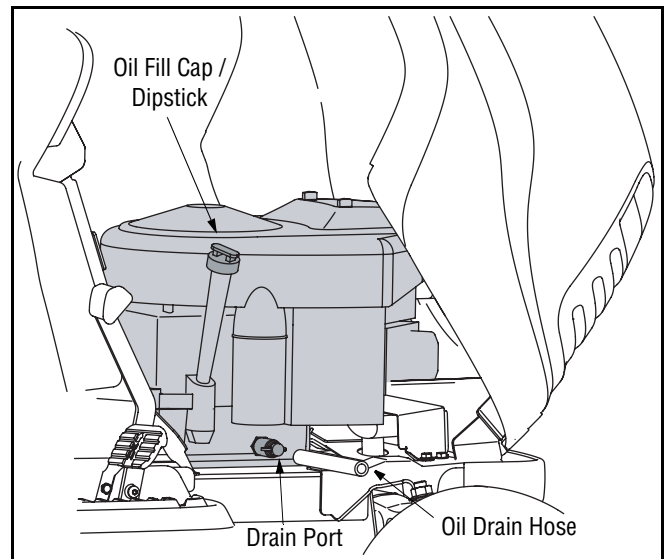

Figure 13
- Pop open the protective cap on the end of the oil drain valve to expose the drain port. See Figure 13